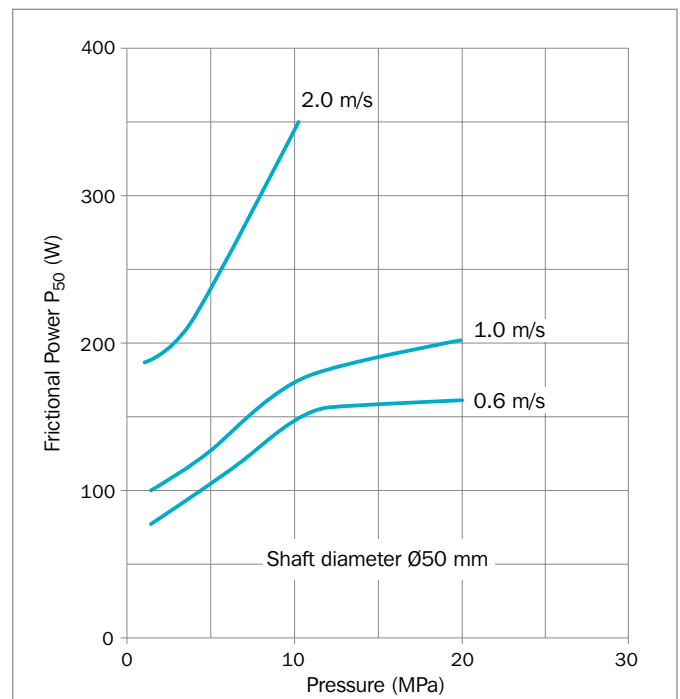

Figure 136: Frictional power for Turcon® Roto Glyd Ring® V in Turcon® M15
Guide values for the frictional power (P) can be determined from the graph in Figure 136.
Find  $P_{50}$  for Turcon® M15 in Figure 136